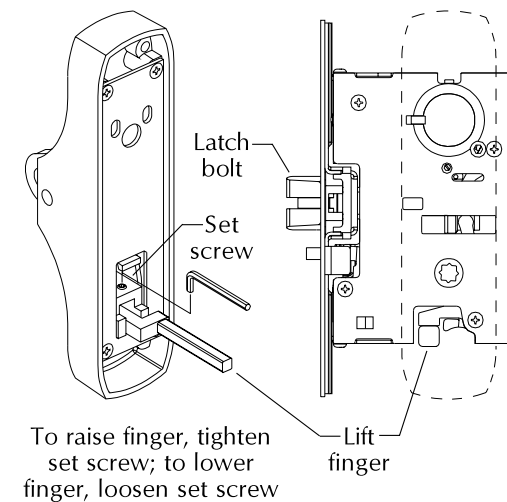

**Figure 1. Prepare Door**
3. Tape full size RHR or LHR lock stile case and hinge stile case templates to inside face of door (Figure 1). Be sure center line of device is 39-13/16" from finished floor. Prepare inside face of door for device per templates.